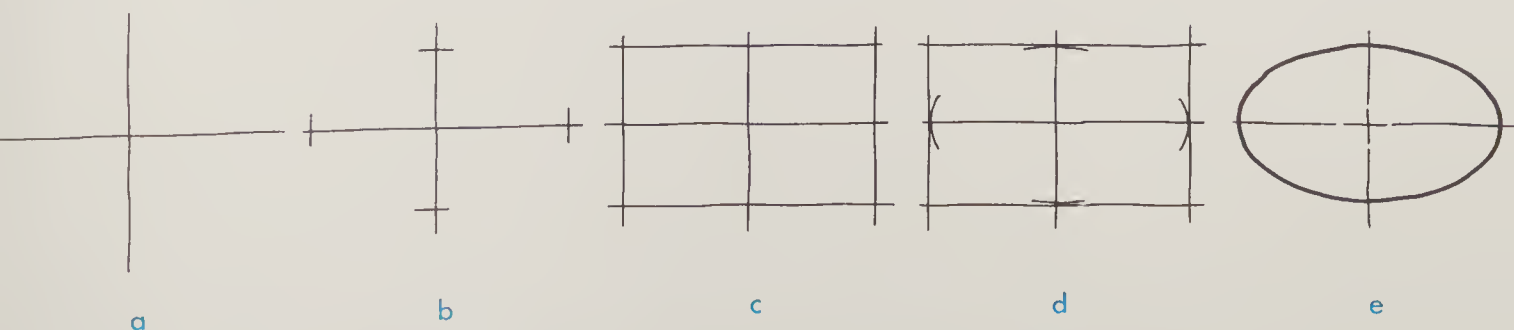

Fig. 4-11. Steps in sketching an ellipse.
1. Locate center of ellipse and sketch center lines, Fig. 4-11(a).
2. Lay off major axis of ellipse on horizontal center line and minor axis on vertical center line, Fig. 4-11(b).
3. Sketch rectangle through points on axis, Fig. 4-11(c).
4. Sketch tangent arcs at points where center lines cross rectangle, Fig. 4-11(d).
5. Complete the ellipse and darken, then erase the construction lines, Fig. 4-11(e).